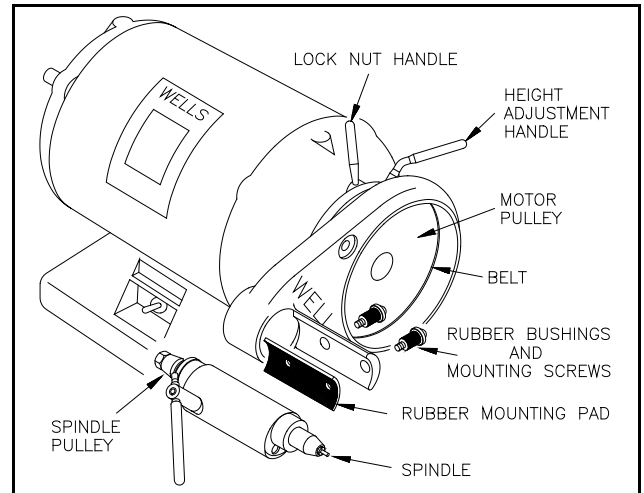

Figure 3. Install the spindle
- 4.2.1 Place the lathe on a sturdy bench and loosen the height adjustment handle. See Figure 3. Rotate the bracket to the position pictured and tighten the handle.